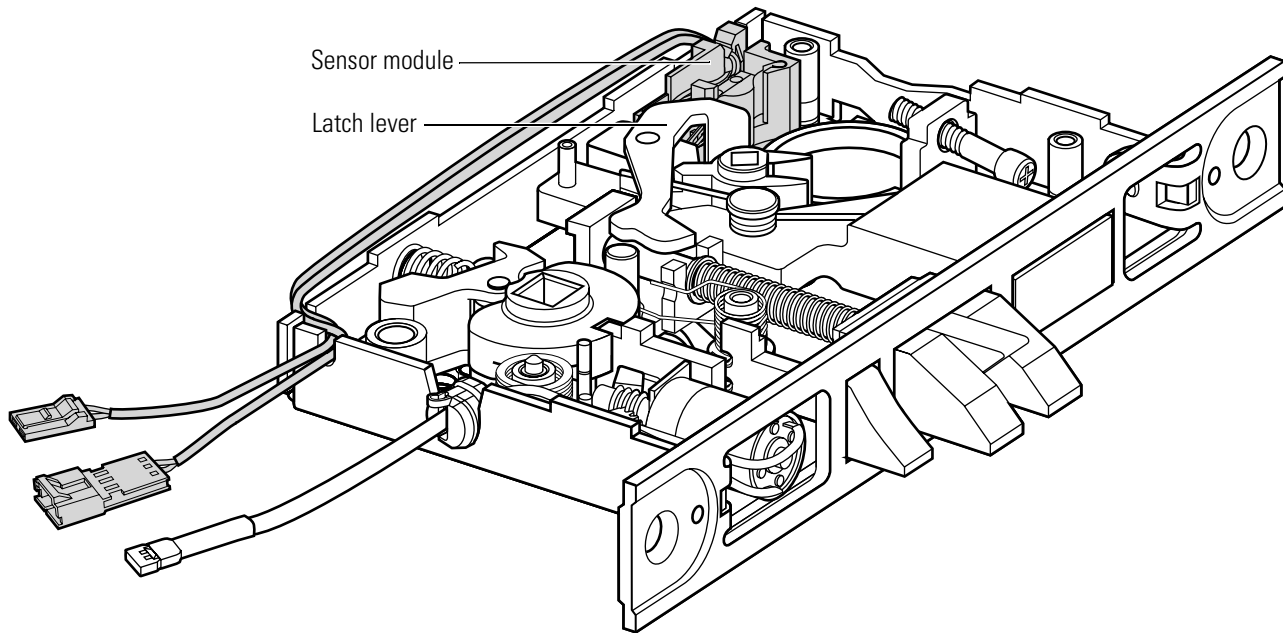

Figure 11.11 Positioning the sensor module in the mortise case (FV function, LH case shown)
5. Remove the latch lever. See Figure 11.11.